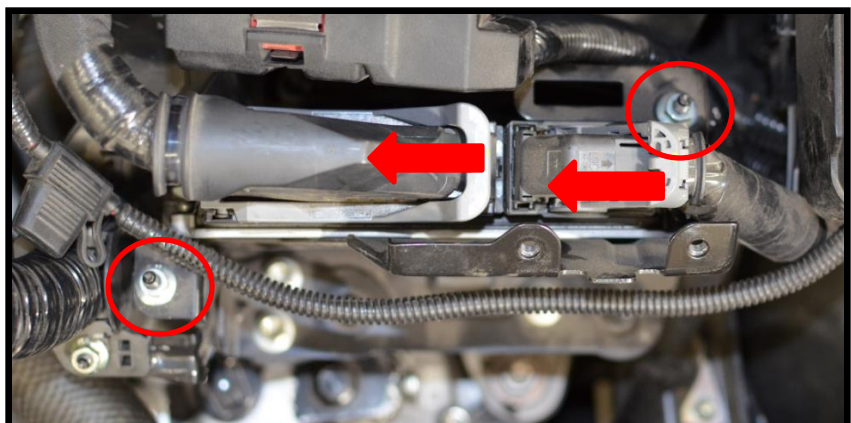

Figure 2c
d) **Remove the ECU wiring harness connectors.** Rotate the light grey lever in the direction of the **red arrows** in **Figure 2c**.
e) **Remove the two 10mm flange nuts** holding the ECU. Shown with the **red circles** in **Figure 2c**.